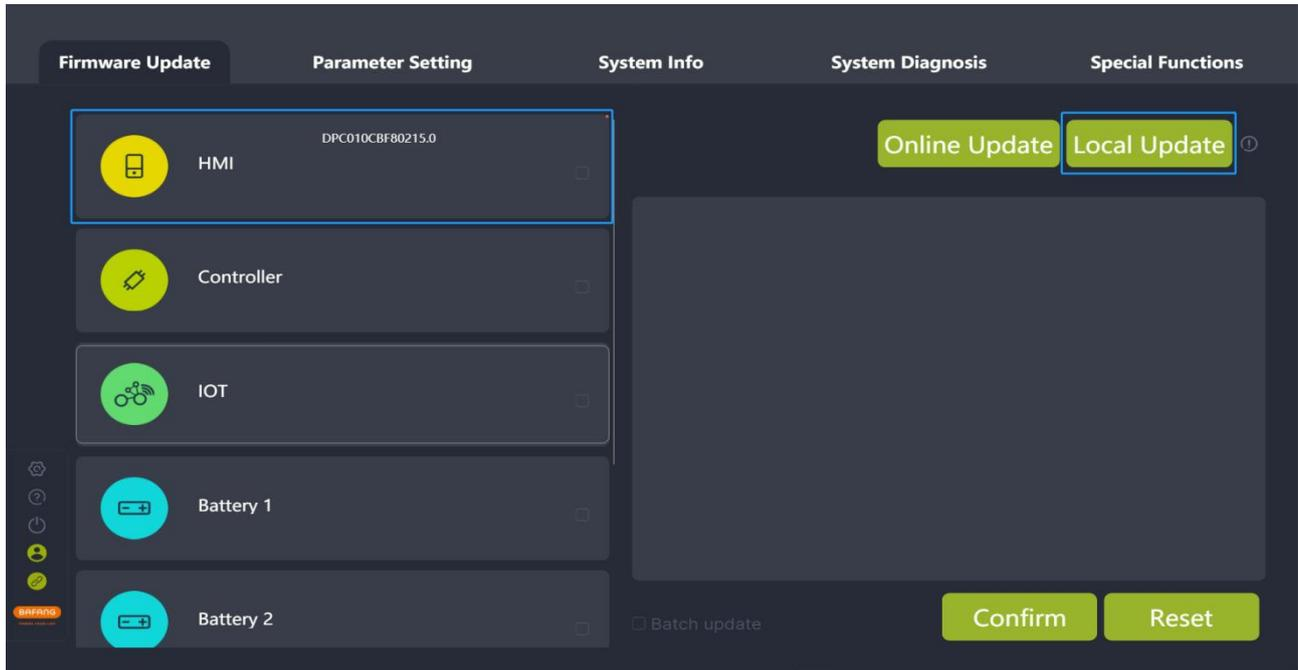

Fig. 4-10 Local update
- (1) Local update: Click "Local Update" to select the firmware to update locally (Fig.4-10).